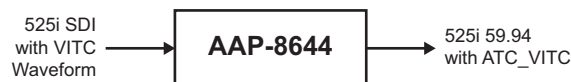

Figure 16.2 Example of the Timecode Functions
**Figure 16.2** shows an example in which received 525i 5994 SDI video with VITC waveform timecode is being processed to output ATC\_VITC timecode. To re-format and insert the timecode data, the following can be performed using the Timecode function. Each Timecode control is fully described on the pages that follow.